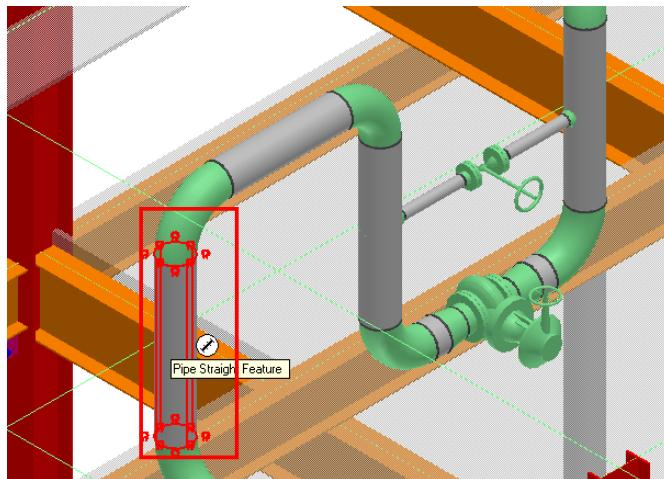

Figure 23: Located Midpoint of the Pipe
Now, you need to place another custom instrument **FV-311** by using the retrieved DDP on the pipeline **300-W** highlighted in Figure 23.
- Click the **Insert Component** button on the vertical toolbar and use SmartSketch to locate the midpoint of the pipe as shown in Figure 23.